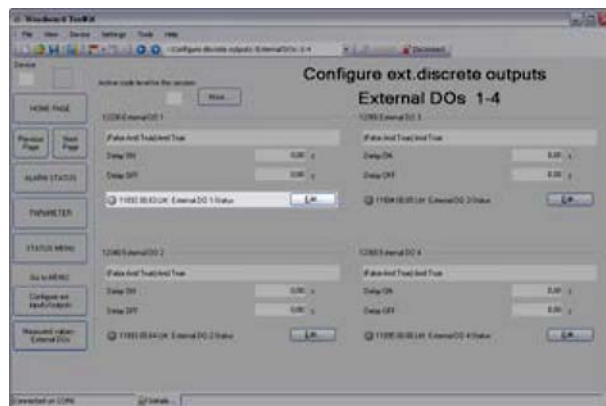

Fig. 213: Setup of external DOs
1. ➔ Set up the external discrete outputs using the Toolkit screen shown in (Fig. 213).